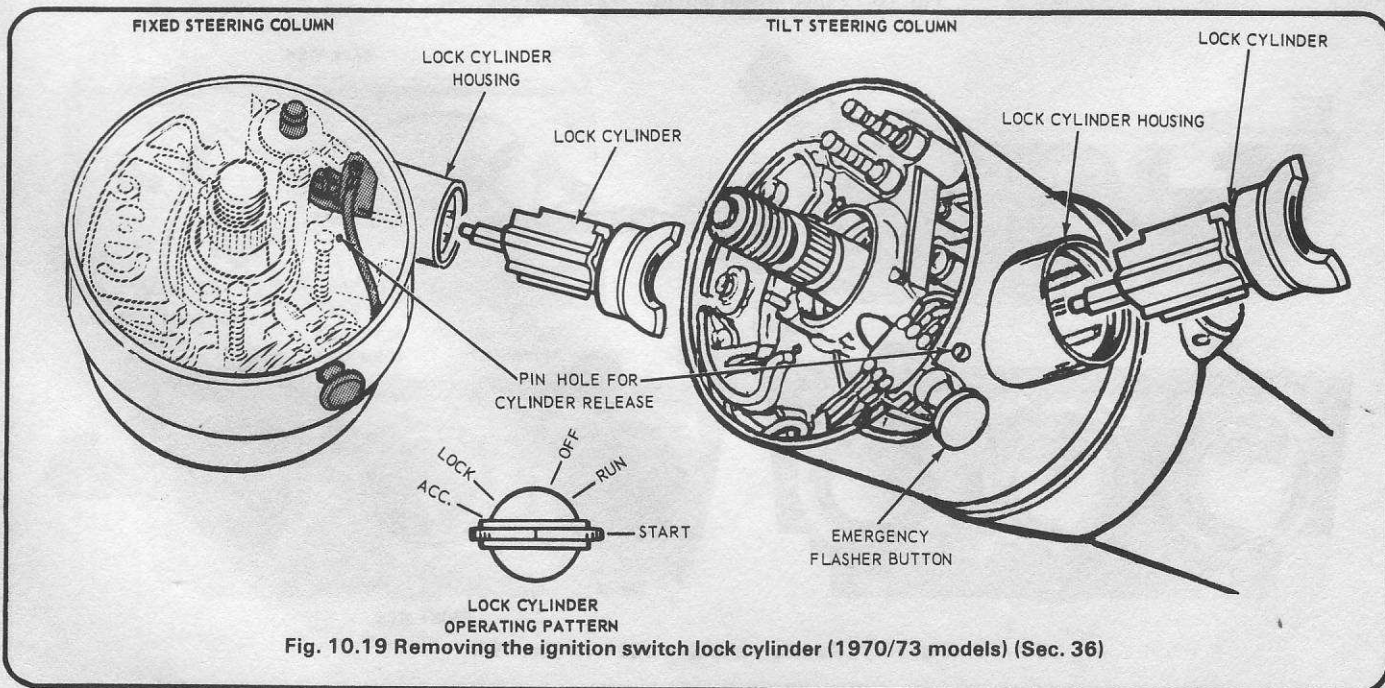

Fig. 10.19 Removing the ignition switch lock cylinder (1970/73 models) (Sec. 36)
- 3 Insert a wire pin, 0.09 in (2.38 mm) diameter in the hole located inside the column halfway down the lock cylinder housing (see Fig. 10.19).
- 8 It is not necessary to remove the steering wheel. Insert the wire pin in the hole located on the outside of the column (see Fig. 10.19) and proceed as for the fixed steering column.